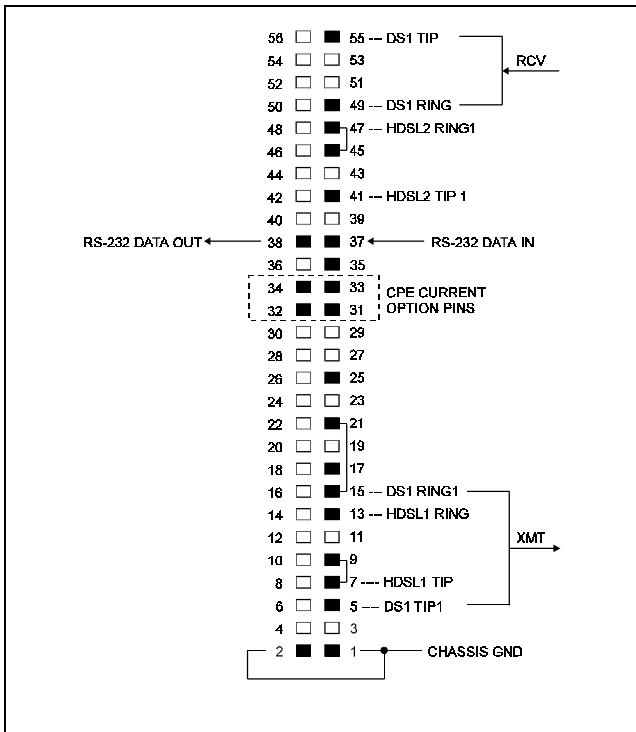

Figure 10. HRU-412, List 1, 2, 3, 3A, & 4 Pin Assignments. The active pins are highlighted in black in this illustration.
13.02 The CPE current pins shown in Figure 10 provide the HRU, List 1, 2, & 4 with the option to provide 60ma of current to power an external Network Interface Device (Smart Jack). See Section 17 for instructions regarding this option.